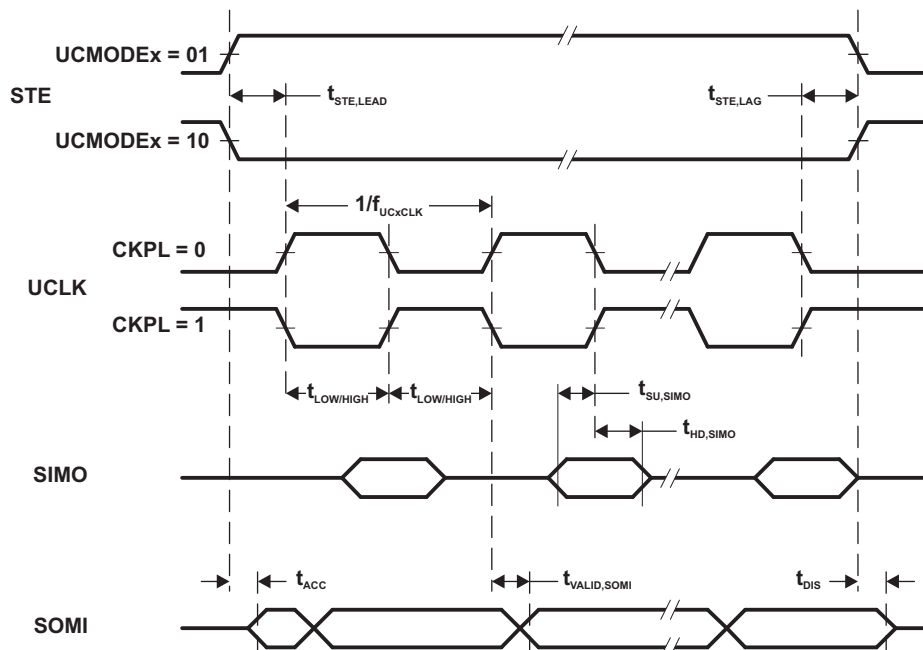

Figure 5-8. SPI Slave Mode, CKPH = 0
(2) Specifies the time to drive the next valid data to the SOMI output after the output changing UCLK clock edge. See the timing diagrams in Figure 5-8 and Figure 5-9.
(3) Specifies how long data on the SOMI output is valid after the output changing UCLK clock edge. See the timing diagrams in Figure 5-8 and Figure 5-9.